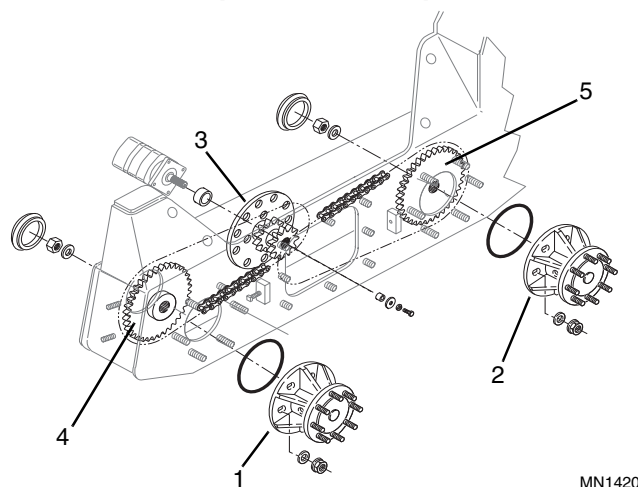

Figure 6-15 Vehicle Sprockets and Axles
The vehicle has two axle assemblies (Fig. 6-15, 1 & 2) and one drive sprocket (3) on each side. The axle assemblies are identical except for the orientation of the front (4) and rear (5) axle sprockets hubs. The drive sprocket (3) is driven by a hydrostatic drive motor and each axle assembly is chain driven by the drive sprocket.